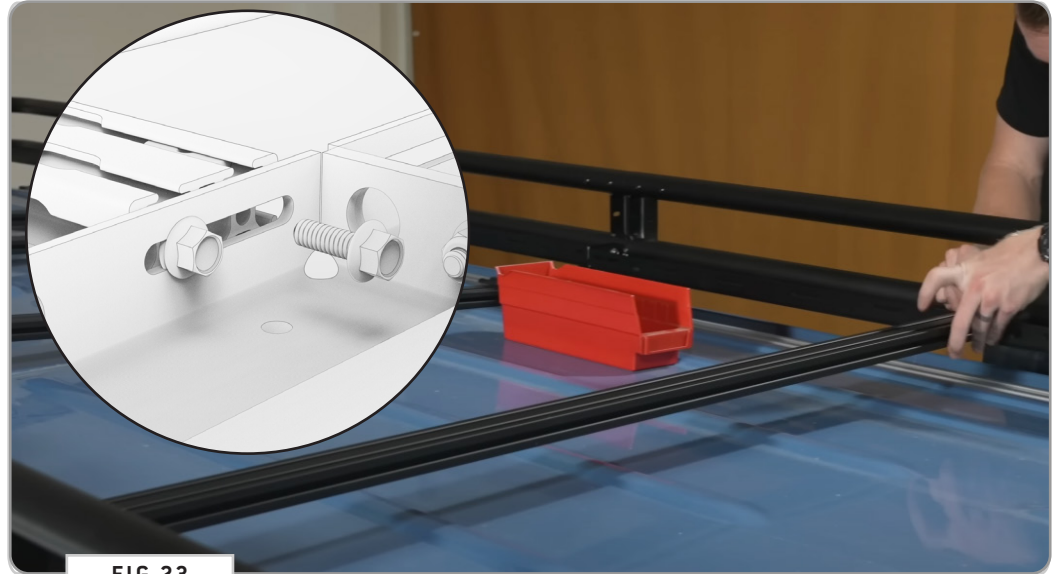
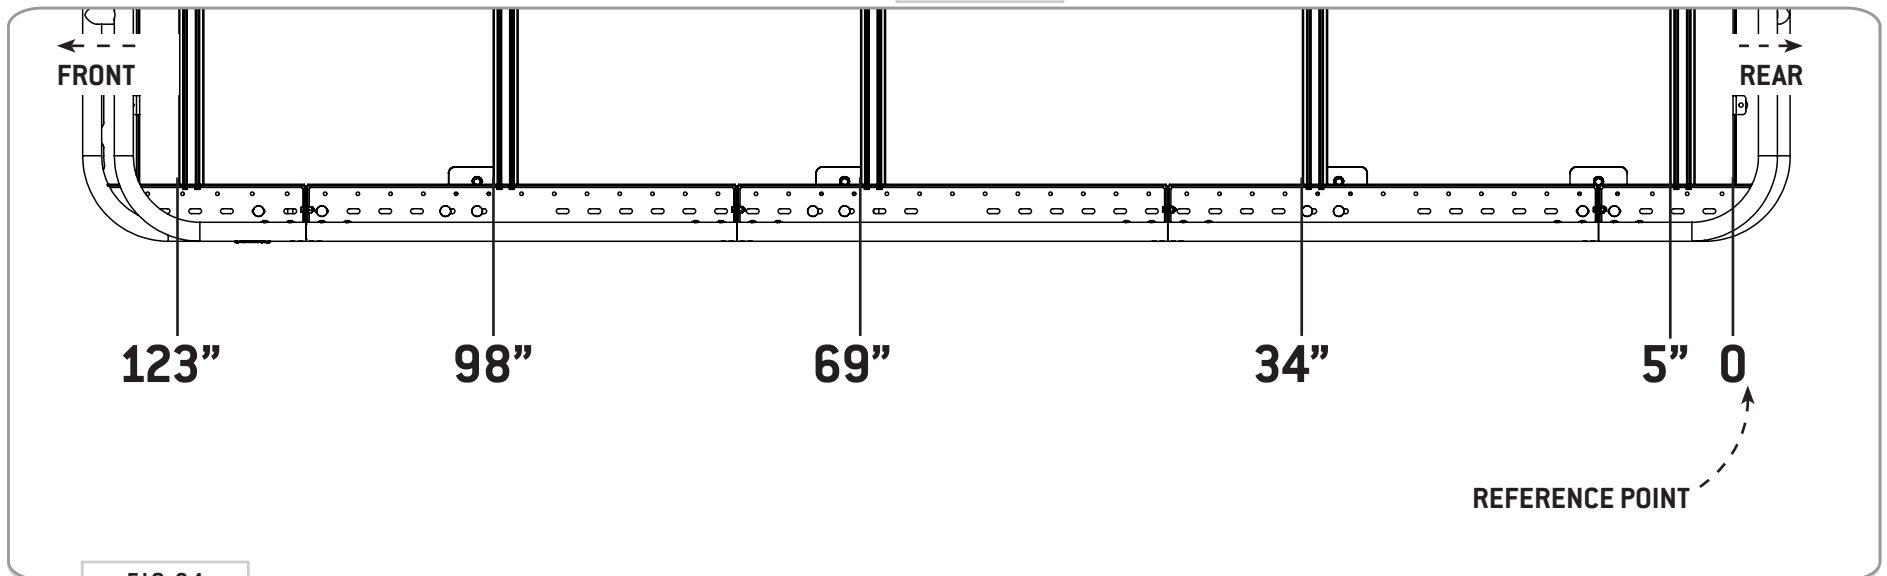

FIG 23
FIG 24
9.1 Attach Crossbars: Using [4ea] 1/4-20 Flanged Hex Bolts with Loctite (FIG 23), attach Crossbars to the rack in the locations shown in FIG 24. Be sure to measure both sides to ensure that the crossbars are square.